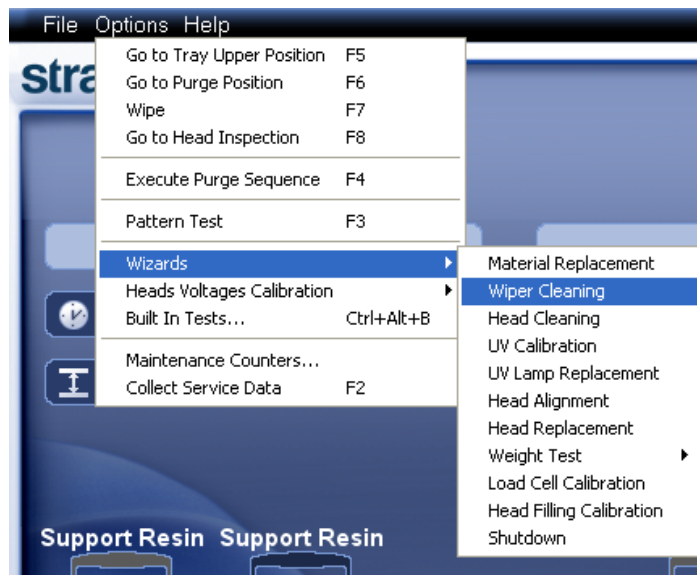

Figure 6-29 Starting the Wiper Cleaning wizard
2. Start the Head Cleaning wizard from the *Options* menu (see Figure 6-29 on page 6-27).